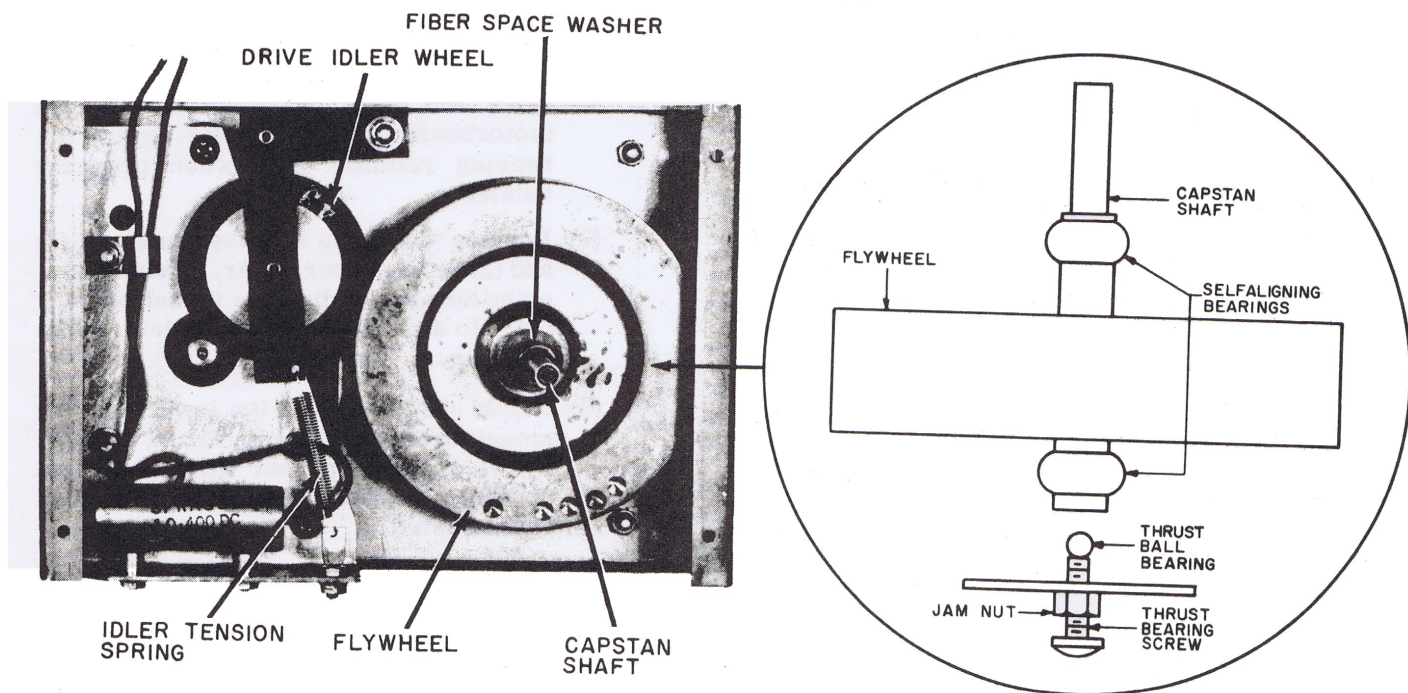

Figure 4. Top of Motor Frame.
- 2.07 When reassembling, assure that all parts are replaced in proper order. Give special attention replacing flywheel thrust bearing and fiber spacer washer (refer to figure 4), motor connections, and motor terminal block shield. During assembly, clean the capstan shaft and pressure roller drive surfaces of any oil accum-
5.05 Drive system alignment is accomplished as follows (refer to figures 4 and 5):